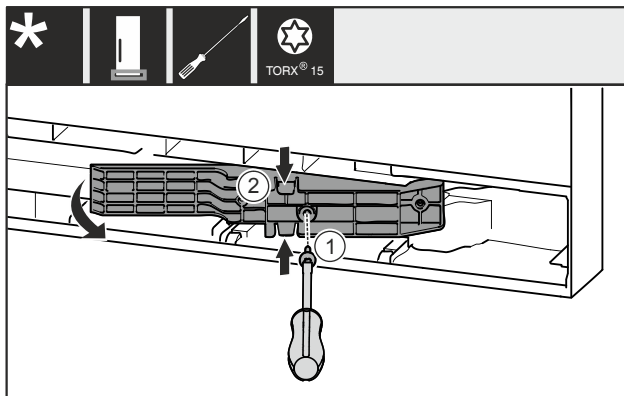

Fig. 13\*
- Remove the screw Fig. 13 (1).\*
- Gently press the adapter piece Fig. 13 (2) together at the top and bottom and pull it out.\*